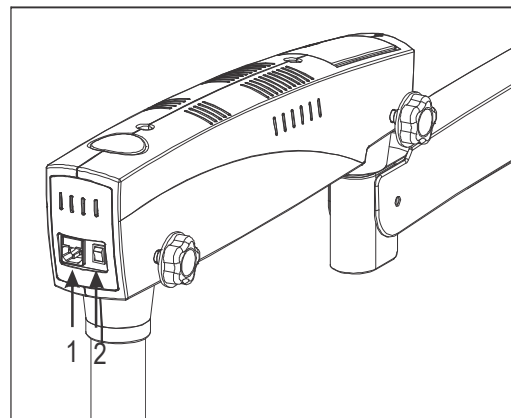

Fig. 7
9.1 ON/OFF switch (Shown as 2 in fig. 7 above)